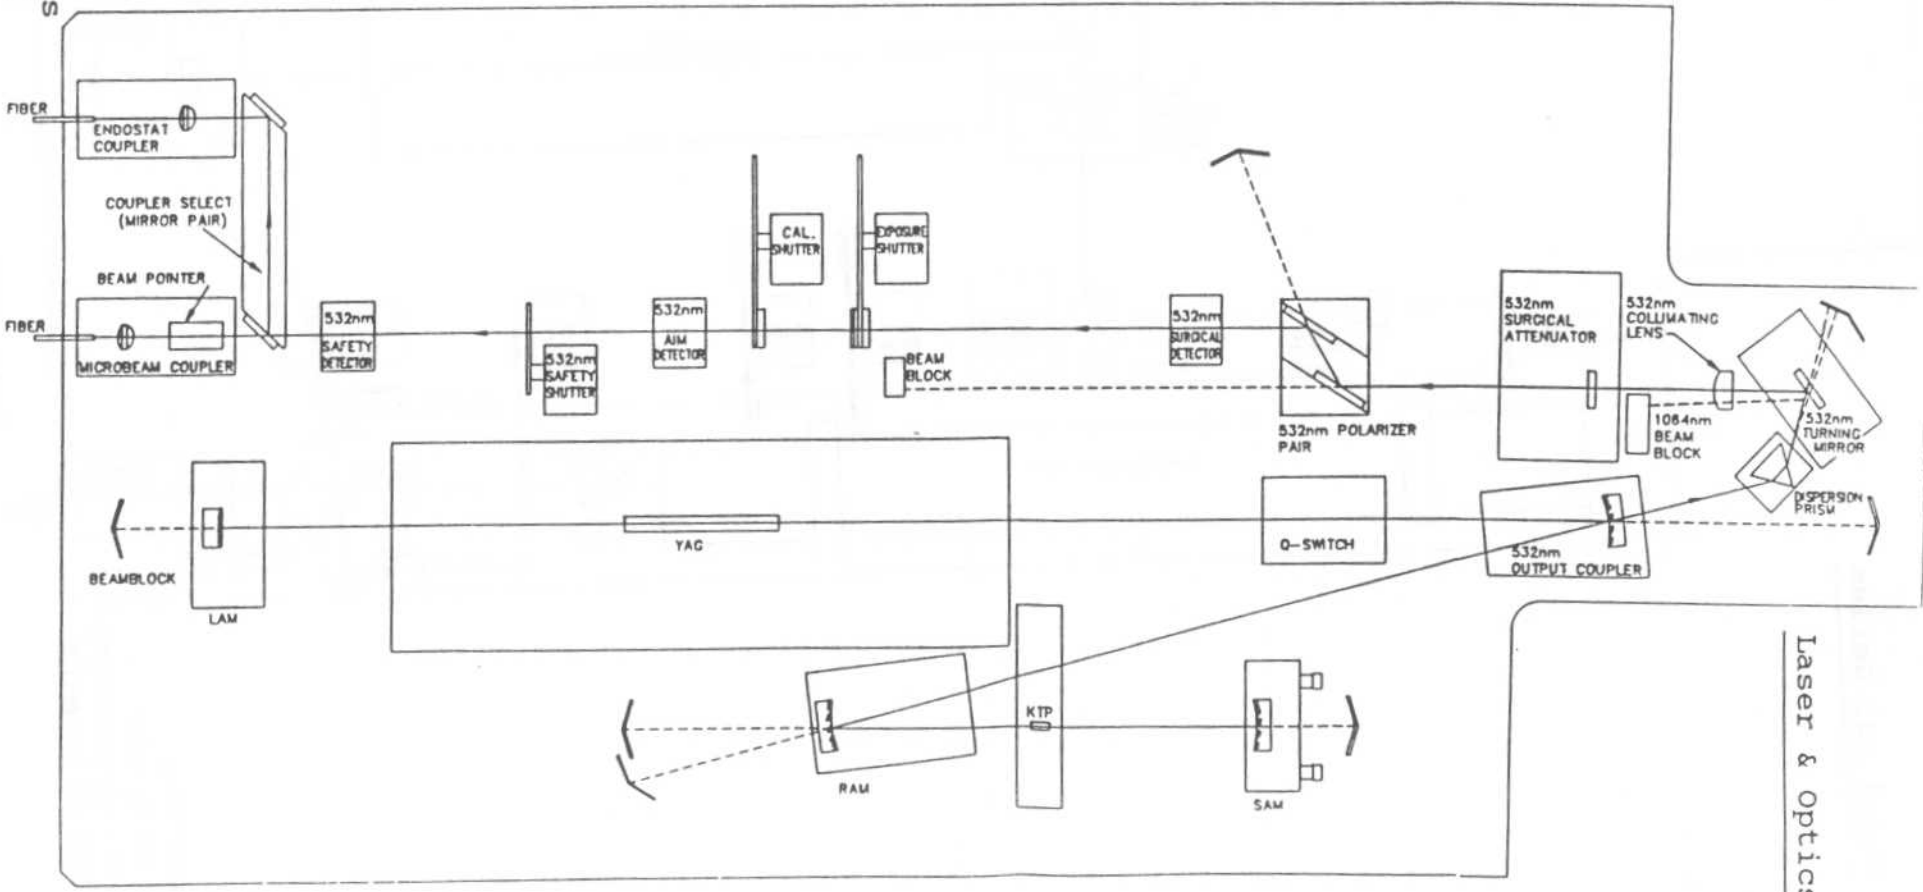
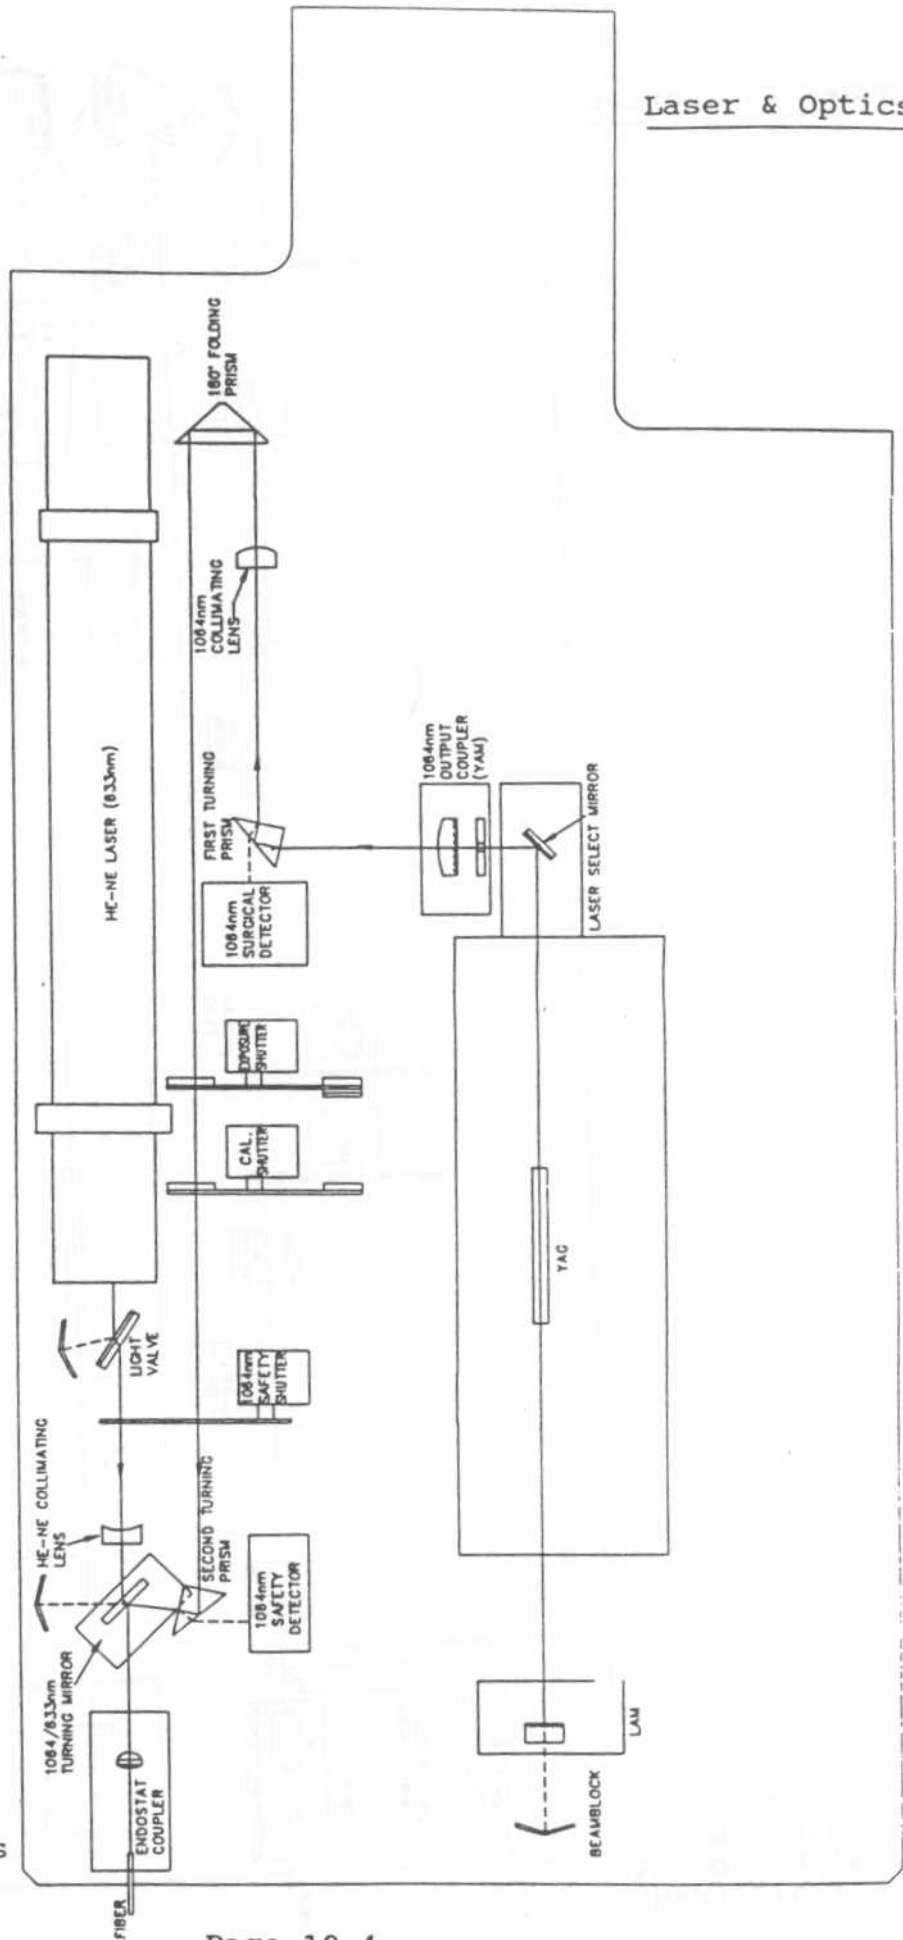

Figure 10-2.
Figure 10-3.
Figure 10-2 shows the beam path and optical components for KTP alignment, and Figure 10-3 shows the beam path and optical components for YAG alignment.
10.3 KTP LASER ALIGNMENT, (Figure 10-2)